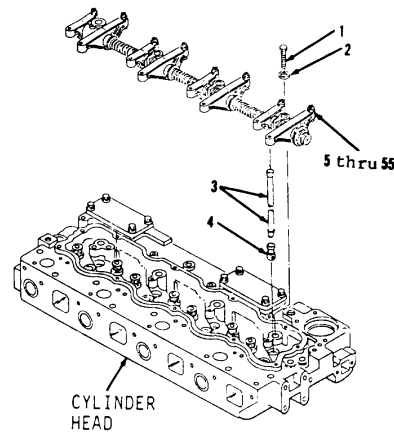

Figure 3-47.
1. Remove four bolts (1) and washers (2, Figure 3-47) from top of cylinder head.
2. Remove items 5 thru 55 as an assembly. Pull straight up to remove from cylinder head.